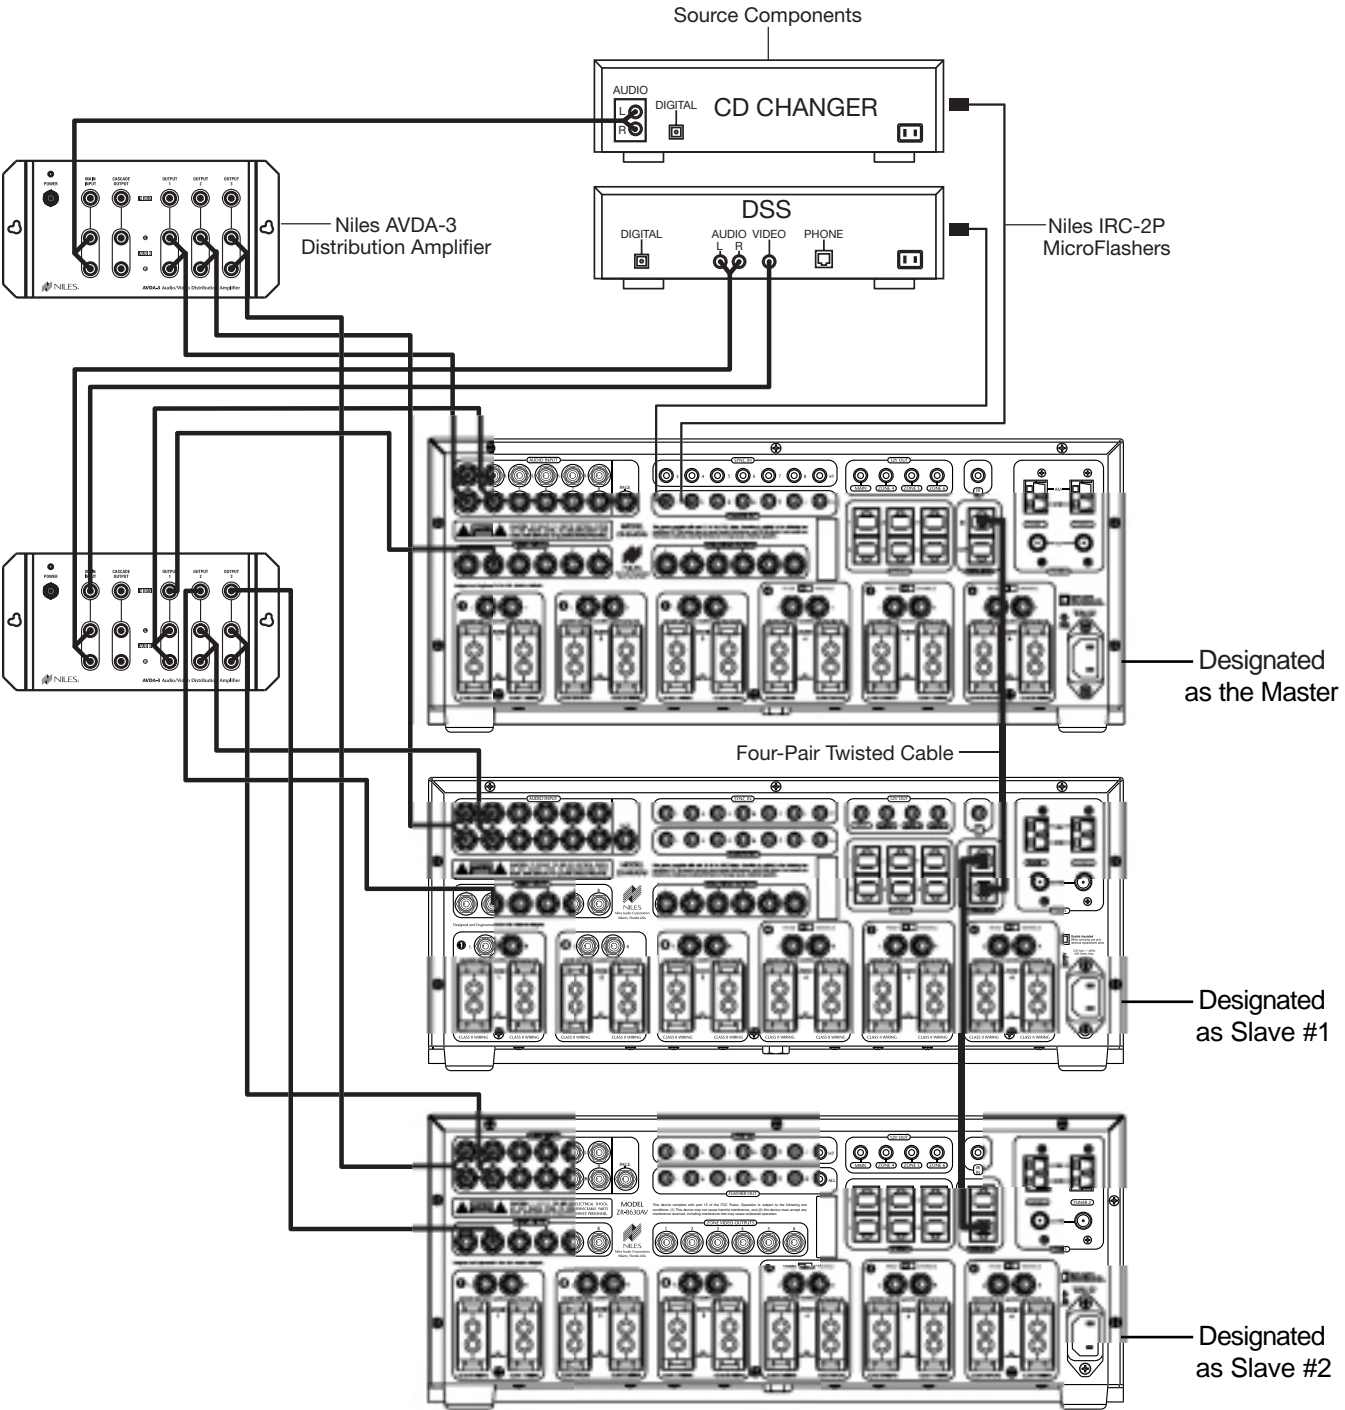
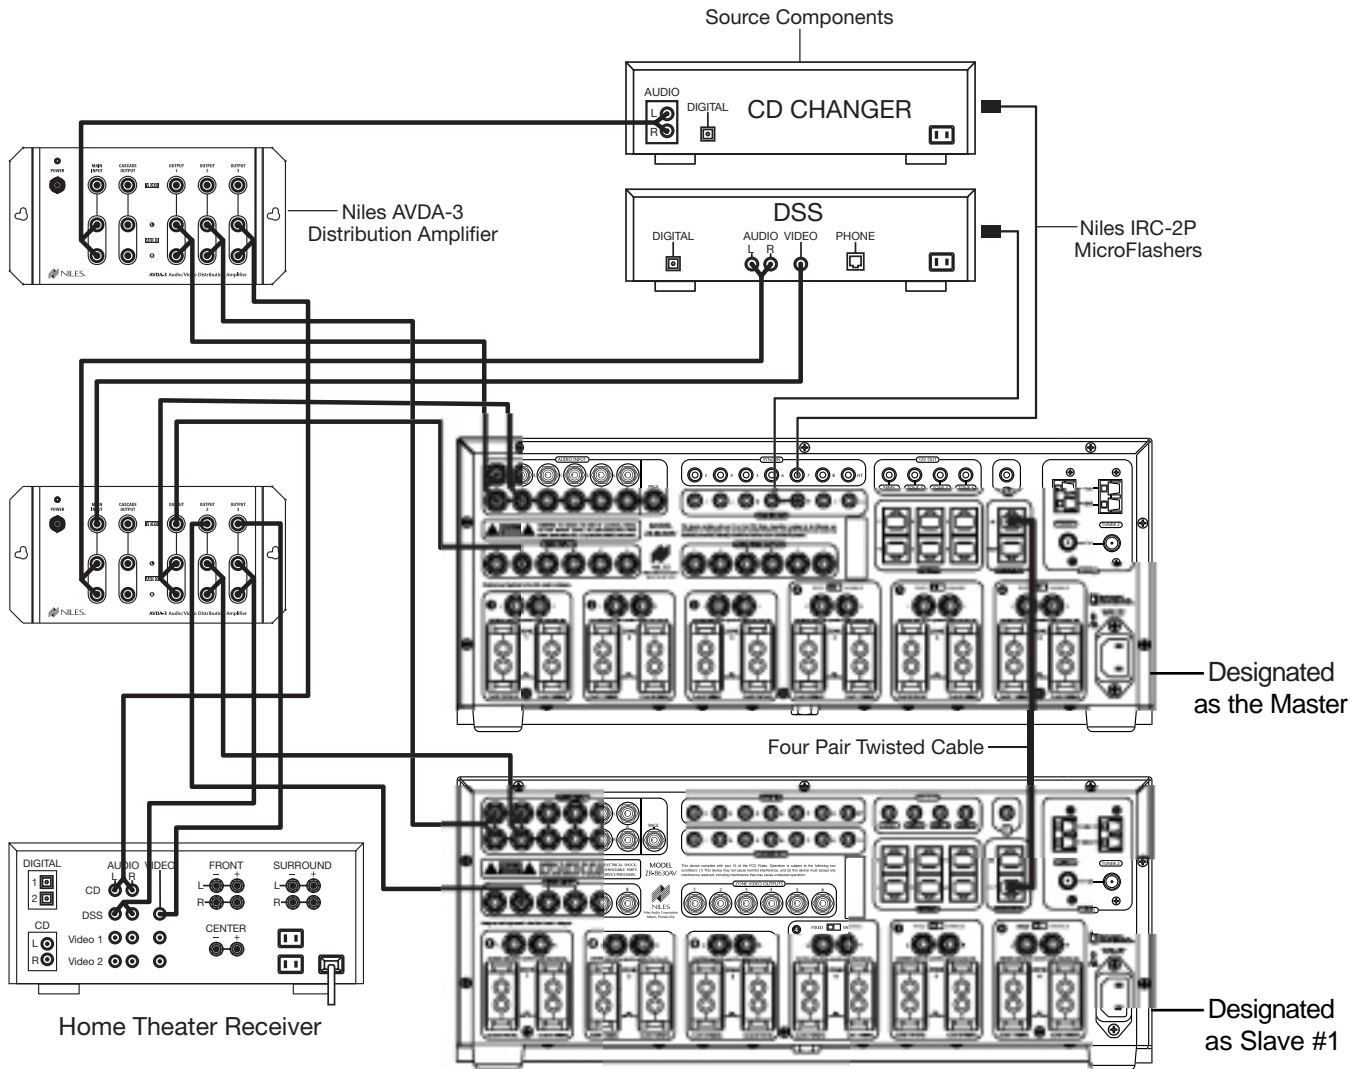

Figure 6
Figure 7
The programming in the master ZR-8630AV accomplishes source-component control (Figure 6). Leave all Slave ZR-8630AV units in the system unprogrammed except for tuner preset stations. Make all Flasher and Sync Input connections for the shared source components to the Master ZR-8630AV. Keypad/Button commands and Zone ON/OFF status are communicated to the Master ZR-8630AV through the System Expansion In/Out connections, providing coordinated control of all source components.
When sharing source components with three ZR-8630AV units (see Figure 6) or two ZR-8630AV units and a Home Theater system (see Figure 7), each source—whether audio or video—requires a Niles AVDA-3 Audio/Video Distribution Amplifier.
**Important Note:** If the Home Theater Receiver has shorting audio inputs, use a Niles AVDA-3 Distribution Amplifier in place of the RCA Y-adapters (refer to Figure 7).